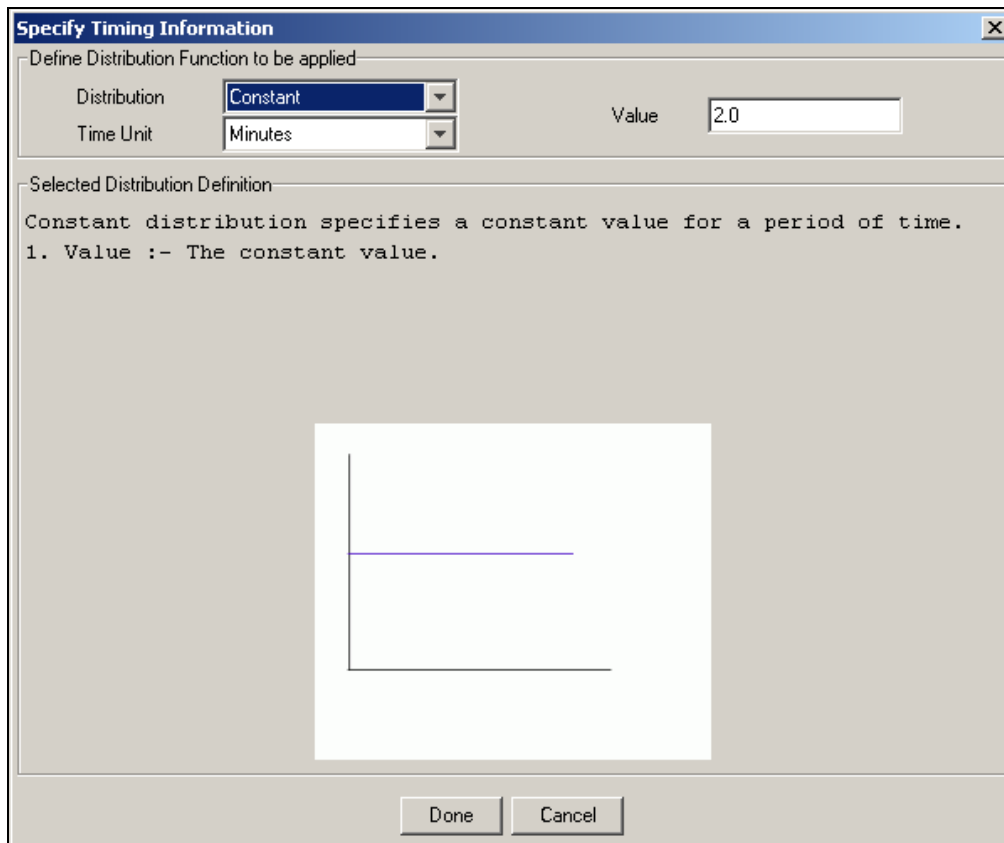

Figure 8: Define Time
6. To change the time interval, click **Change**. The **Specify Timing Information** dialog box appears (see Figure 8).